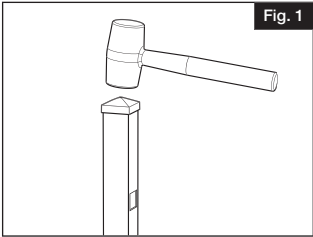

Fig. 1
1. Use a rubber mallet to gently drive the post tops onto the posts (sold separately). Be careful not to damage the post top (Fig. 1).
1. As the post is setting up, install the first fence panel. Insert the horizontal rails from the panel into the punched holes from the previously installed post. Place the rails as far into the post as they will go (Fig. 1).